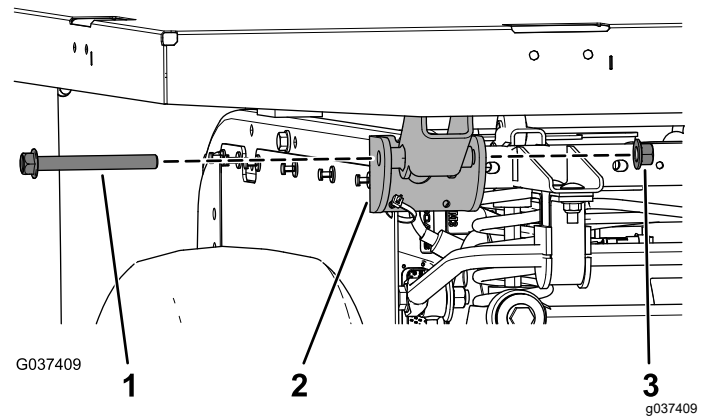

Figure 8
6. Install the 2 flange-head screws (1/2 x 4-1/2 inches) through the pivot bracket and secure them with the 2 locknuts (1/2 inch) as shown in Figure 8.